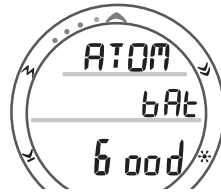

Fig. 5 - ATOM BATT GOOD
- 2 seconds later, the ATOM's Battery status will be displayed for 3 seconds (Fig. 5), then -